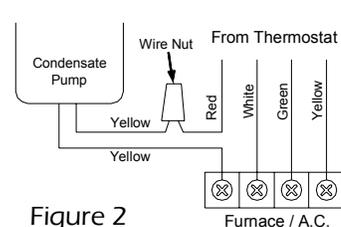

Figure 2
**LOW VOLTAGE—AUXILIARY SAFETY SWITCH**—Connect the leads of auxiliary safety switch to the thermostat control circuit of the air conditioner/furnace. This will disrupt the thermostat demand in a high water condition. (Figure 2)